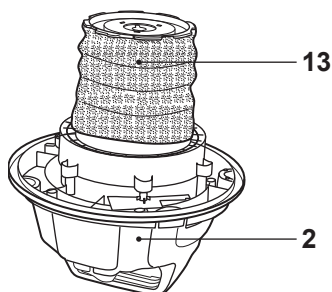

Fig. 18
Use the foam sleeve (13) during wet vacuuming operations (Fig. 18). Operating the product without the foam sleeve (13) can damage the motor unit.
- > Inspect the foam sleeve (13) regularly. Replace it with a new one if necessary.
- > Wash the foam sleeve (13) frequently, with clear water. Do not wait until the sleeve is completely dirty. We recommend inspecting the sleeve when the product does not reach a sufficient suction power.